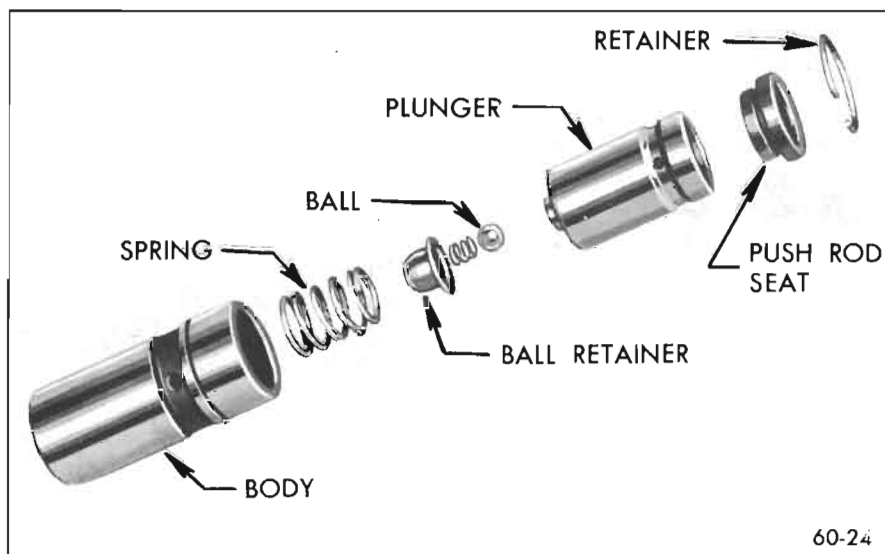

Figure 60-24—Hydraulic Valve Lifter Parts
16. Hold plunger in vertical position with feed hole up, then rinse and install the check ball, check ball spring, ball retainer, spring, and body over the plunger. See parts in Figure 60-24.